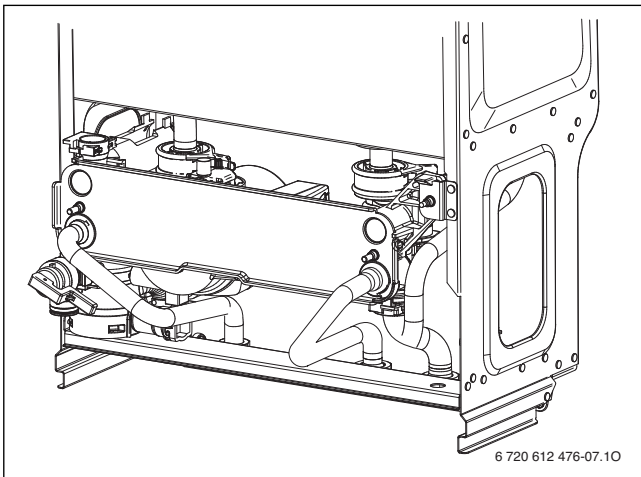

Fig. 7
- On completion the pipe assembly should look as shown in Fig. 7.